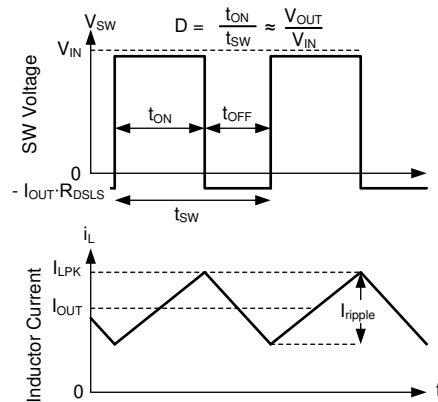

Figure 8-15. SW Voltage and Inductor Current Waveforms in Continuous Conduction Mode (CCM)
The following operating description of the LMR436x0 refers to Section 8.2 and to the waveforms in Figure 8-15. In CCM, the LMR436x0 supplies a regulated output voltage by turning on the internal high-side (HS) and low-side (LS) switches with varying duty cycle (D). During the HS switch on time, the SW pin voltage, V_{SW} , swings up to approximately V_{IN} , and the inductor current, i_L , increases with a linear slope. The HS switch is turned off by the control logic. During the HS switch off time, t_{OFF} , the LS switch is turned on. Inductor current discharges through the LS switch, which forces the V_{SW} to swing below ground by the voltage drop across the LS switch. The converter loop adjusts the duty cycle to maintain a constant output voltage. D is defined by the on time of the HS switch over the switching period: